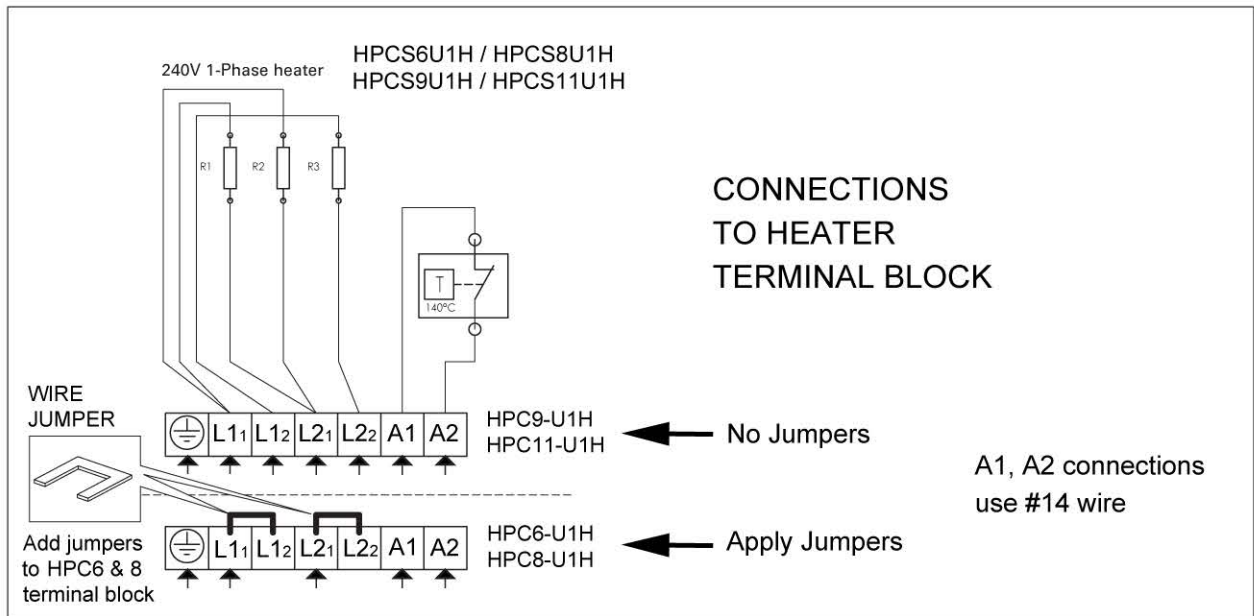

Figure 7. Electrical connections of the heater
2. See applicable wiring diagram for heater model (figure 7, 7.1, and 7.2).